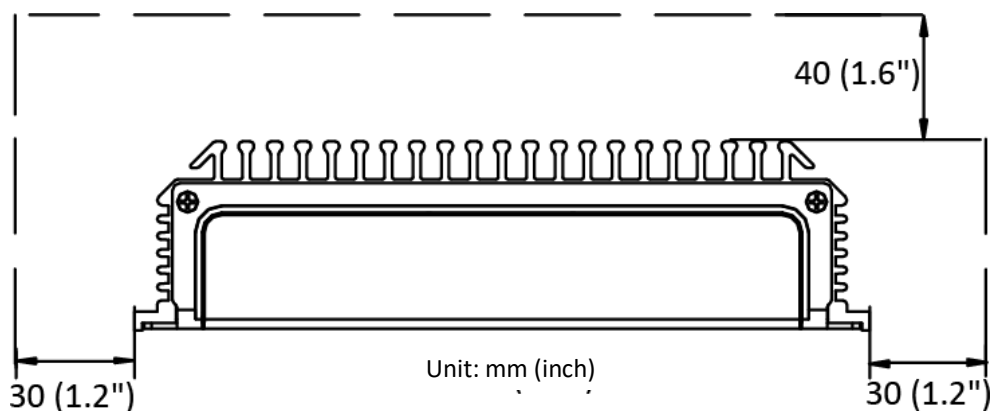

Figure 3-1 Recommended Installation Space
- Due to the special heat dissipation feature of the intelligent terminal, please reserve enough installation space for the device. The recommended space is illustrated in Figure 3-1.